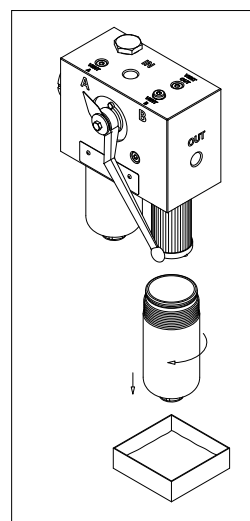

fig. 27
- (Fig. 27) Unscrew the filter bowl while keeping the collection vessel